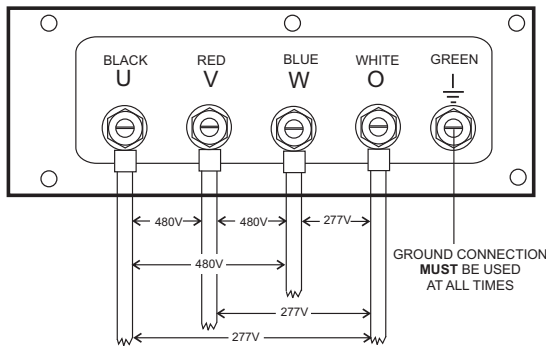

Figure 31. UVWO Terminal Lugs 3Ø-480V Connections
2. Connect the load wires to the UVWO terminals as shown in Figure 31.